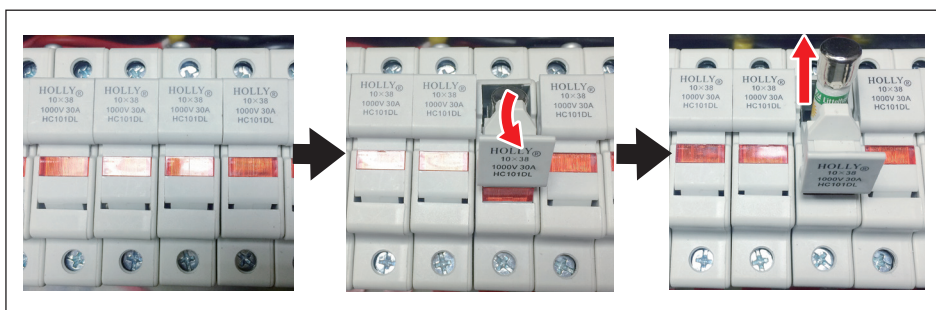

Figure 5-9: Finger-safe fuse holders and fuse access for -120 models
3. Pull out the fuse holder door and check the fuse. (**Figure 5-9**)